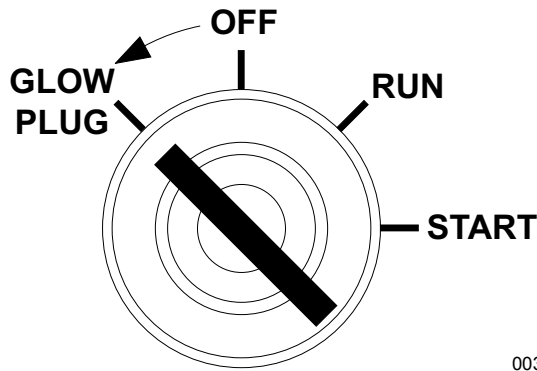

Figure 3-5. Activate Glow Plug
2. See Figure 3-5. Turn the key on the Engine Start switch to the right GLOW PLUG position and hold the key in place for five seconds or until the glow plug indicator turns red.